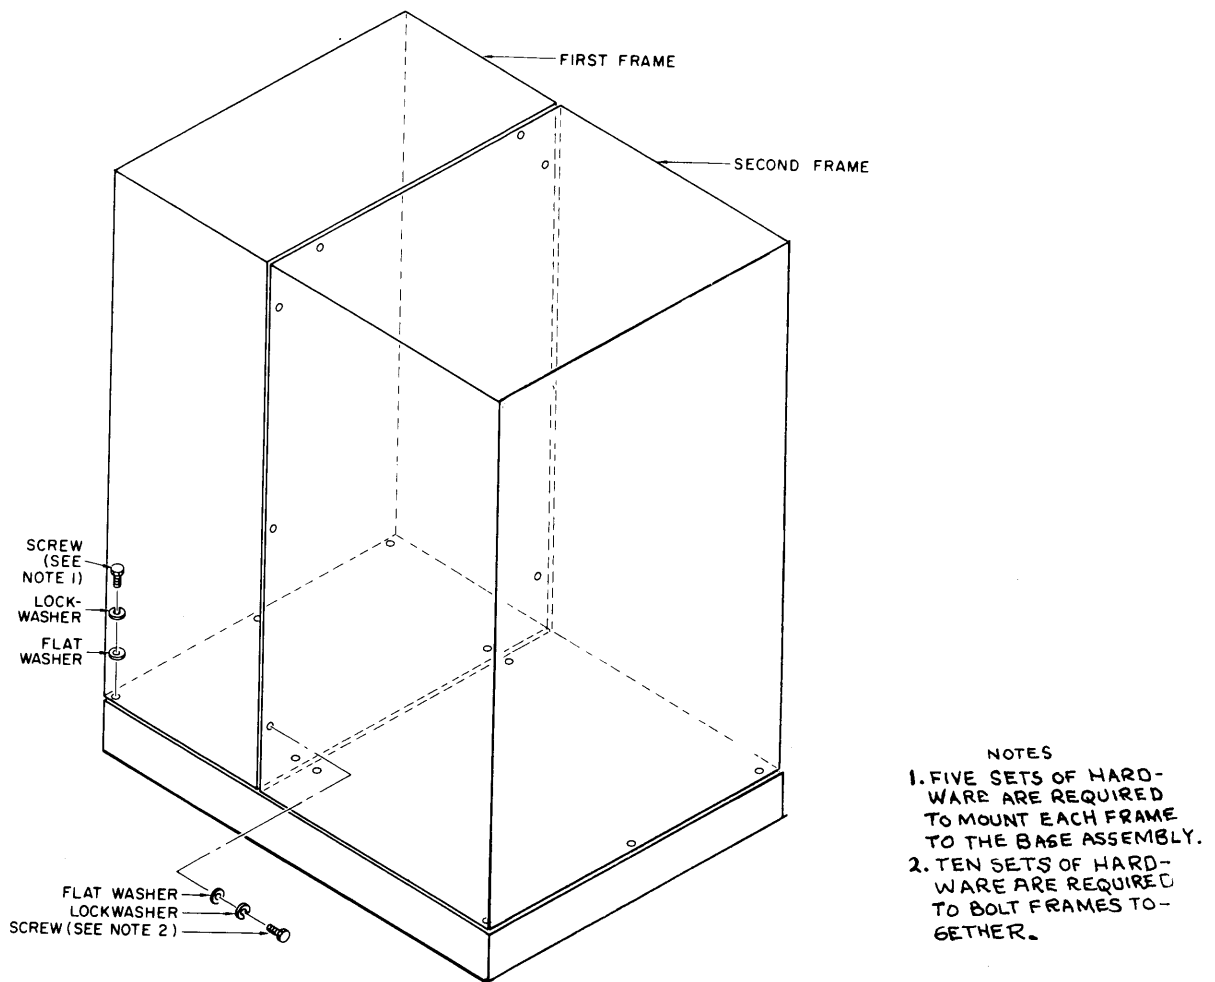

Figure 2-6. First and Second Frames, Installation Diagram.
- b. Position first frame on base assembly (see figure 2-6).
- b. Position second frame on base assembly (see figure 2-6).
- (1) Unscrew large slotted hex-head screws on the front panel
- (2) Pull panel forward to clear frame.
e. Using hardware from crate 1 (bag-frame to base mounting kit), loosely bolt first and second frames to base assembly (see figure 2-6).
a. Using hardware from crate 1 (bag-auxiliary and main frame assembly kit), loosely bolt frames together (see figure 2-6).